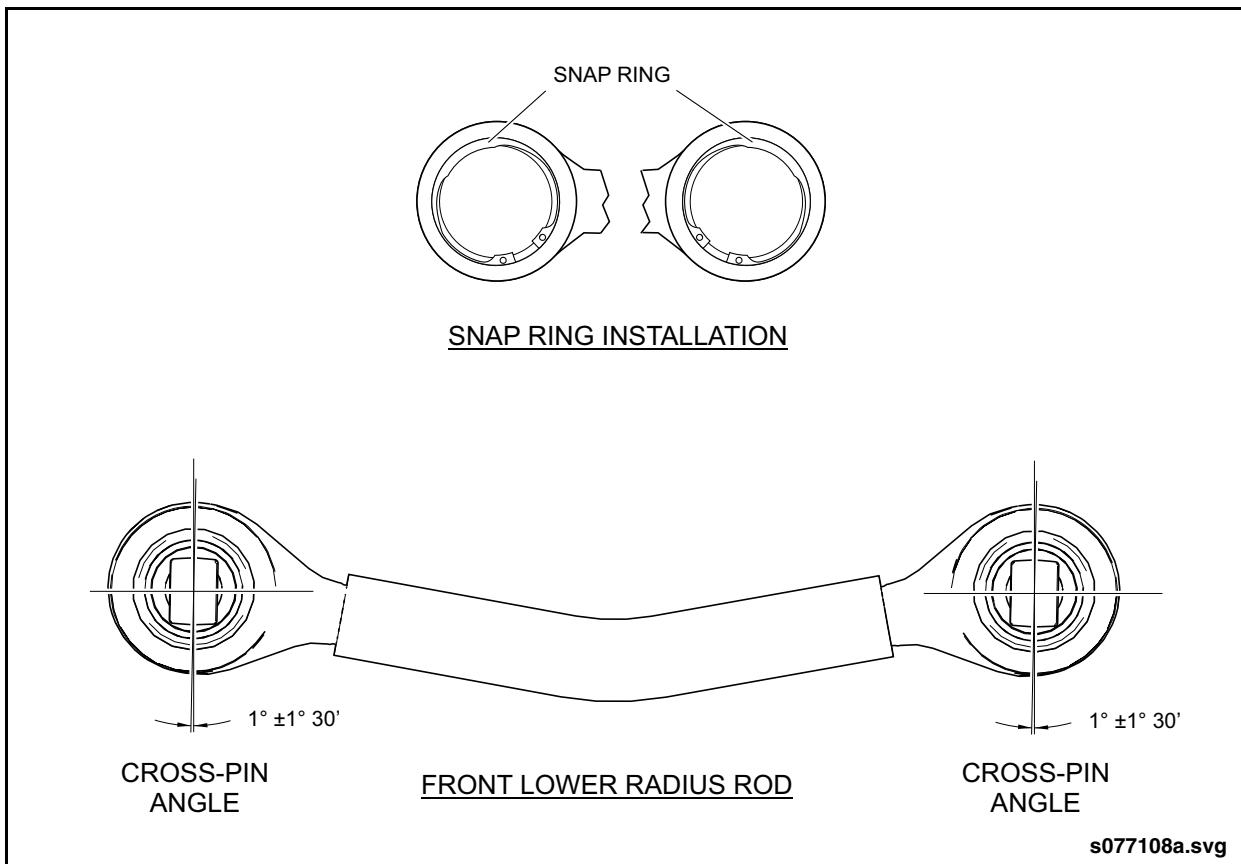

Fig. 1-40: Front Lower Radius Rod Bushing Replacement
9. Insert bushing into bore of radius rod so that the cross-pin angle is properly aligned. See "Fig. 1-40: Front Lower Radius Rod Bushing Replacement" on page 38.